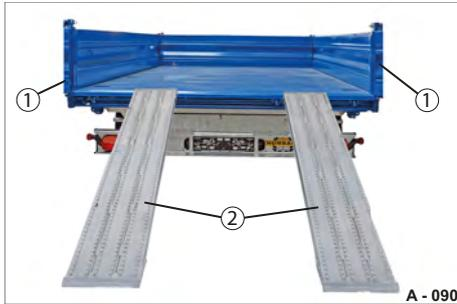

Fig. 74 Ramp planks positioned
- ▶ Remove the ramp planks (Fig. 74/2) from the plank bay.